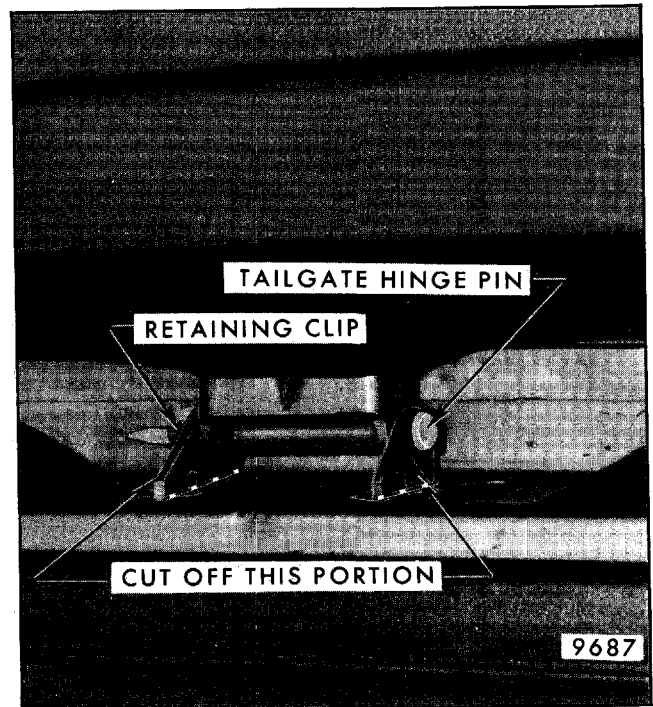

Fig. 7-112 - Tailgate Hinge Pin, A-35
5. If replacing gate side hinge, remove the "ear" portion flush with gate (Fig. 7-112).